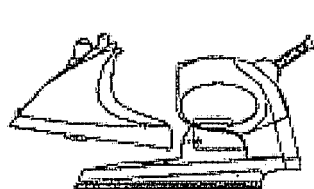

FIGURE 7
3. Press the Detachable Water Tank Lock button to release the Detachable Water Tank (see FIGURE 7).
6. To attach the Detachable Water Tank, push in until it snaps into position (see FIGURE 7).